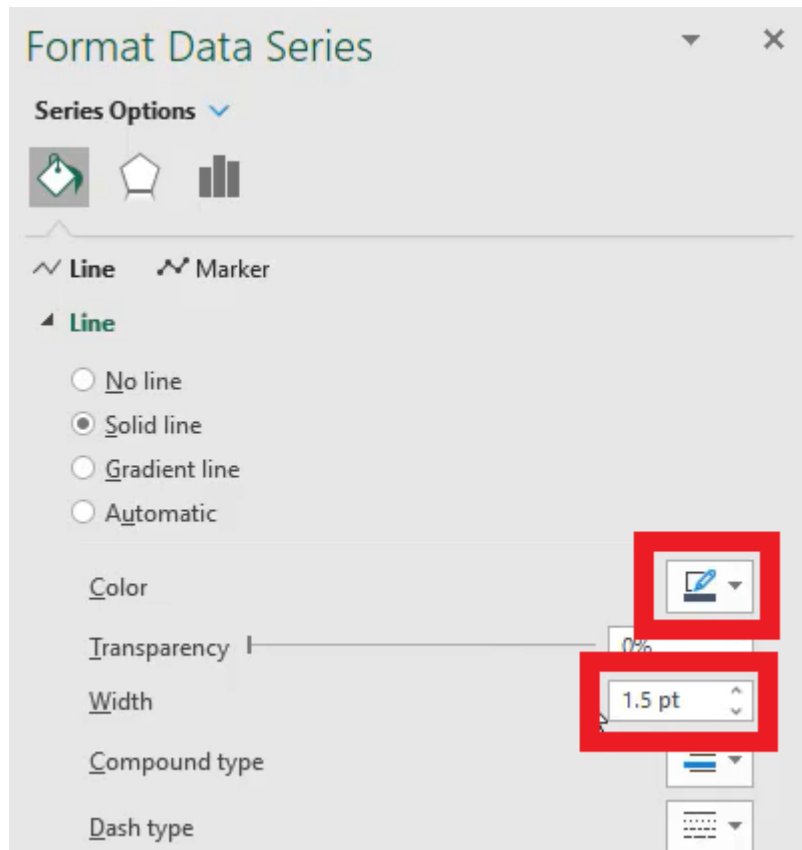

Figure 37.8
5. Change it to the dark blue color. (See **Figure 37.8**)